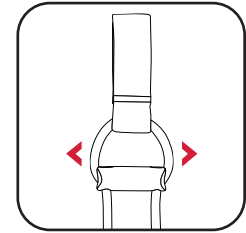

Fig 1
1. Unclip the elasticated straps from the housing by pulling outwards in the direction shown (fig. 1)